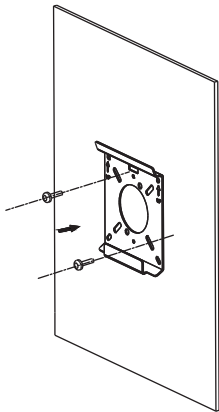

Figure 1
- Fix the mounting plate on the Wall. Flat side should be toward the wall, both hooks should be facing up. (Figure 1)